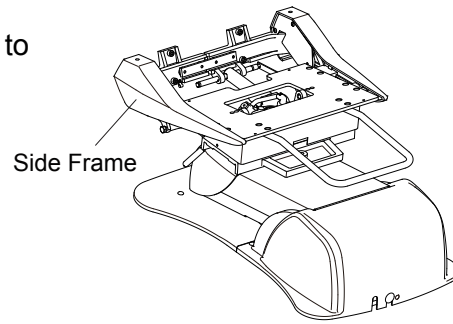

Fig 4-1-3
3) Lift chair base from pallet into the installation location. Be sure to lift chair under the side frame. (See Fig 4-1-3)